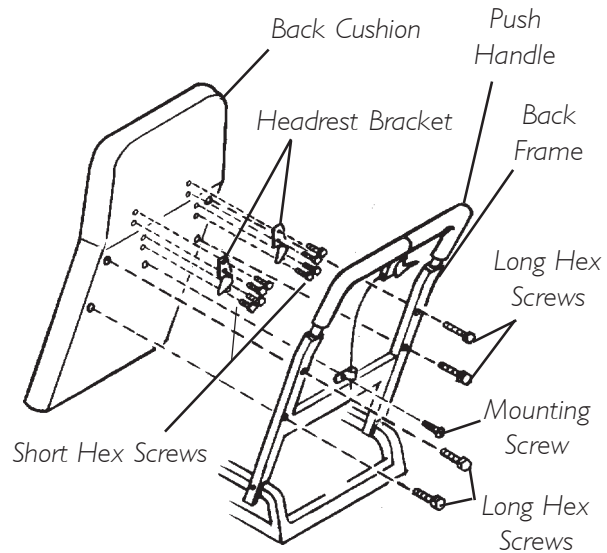

FIGURE 5 - REMOVING/INSTALLING THE BACK CUSHION - MODEL 6908A
MODEL 6908A (FIGURE 5)
2. Install four (4) long hex screws to secure the back cushion to the back frame as shown in FIGURE 5. Securely tighten.
3. Secure the headrest bracket to the back cushion with four (4) short hex screws. Securely tighten.